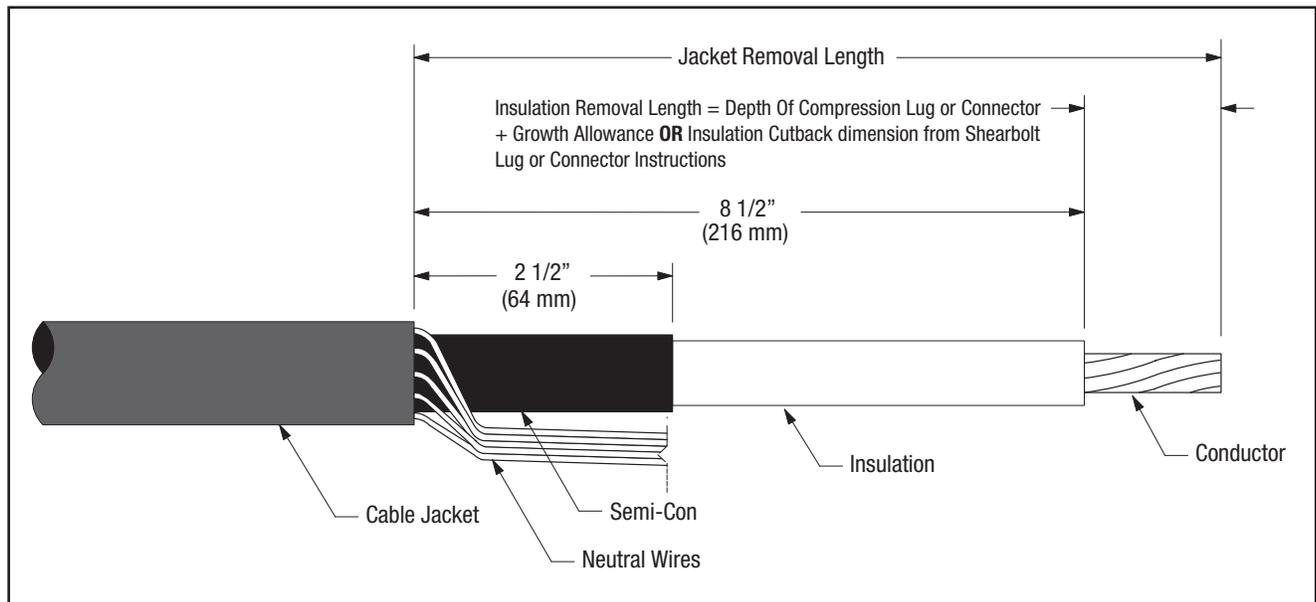

Figure 1
- 2.3 Prepare cable using dimensions shown in Figure 1. **BE SURE TO ALLOW FOR DEPTH OF TERMINAL LUG OR CONNECTOR.** If using 3M Mechanical Shearbolt Lugs QL2 Series: Two Hole, or 3M Mechanical Shearbolt Connector QCI Series, proceed to Step 2.4. If using a Crimp Type (Compression) lug, measure the depth of the barrel, or if using a Crimp Type (Compression) connector, measure to the barrel center stop/midpoint, and see the NOTE below, in order to calculate the Insulation Removal Length. Table 4 can be used to assist in calculating the total Jacket Removal Length when using a compression lug or connector.